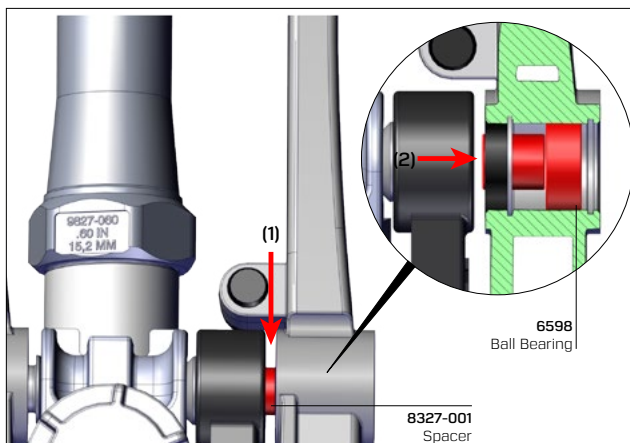

Fig. 3.
- E. Insert blade of screwdriver between right drive arm bearing hub and counterweight bearing hub as shown by arrow (1) in Fig. 3. Work blade against **#8327-001** spacer, and slide spacer and **#6598** ball bearing in direction indicated by arrow (2) in Fig. 3.